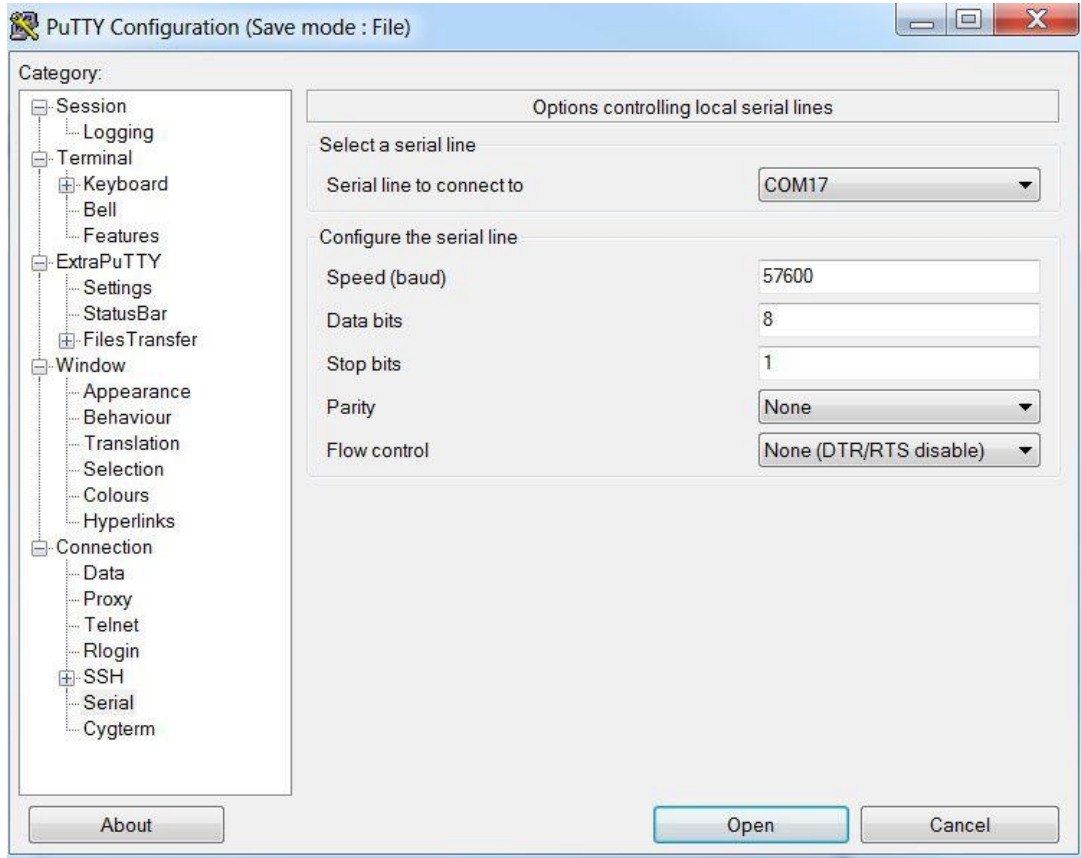

Fig. 7. Serial setup screen.
- (2) Fig. 7 shows the ExtraPuTTY Serial setup screen. After choosing the correct COM port from the dropdown list, set up with the configuration parameters as shown. If you want to save the configuration before proceeding to programming, click on the “Session” button at the top of the left menu, and go to step (3). If not, click on the “Open” button at the bottom to open the Session screen, and proceed to step (4).